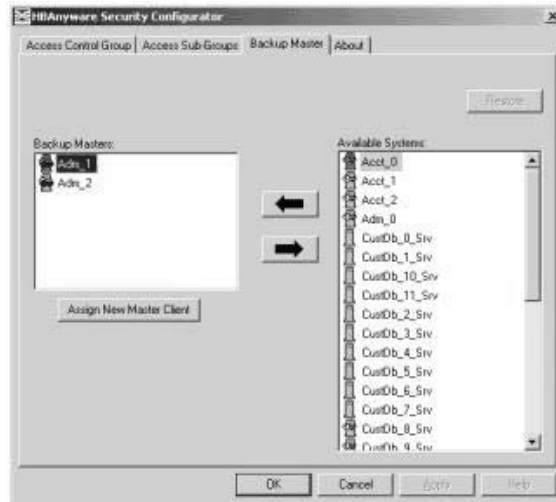

Figure 50: Backup Master tab with Backup Masters
2. Click the **Backup Master** tab (see Figure 50)